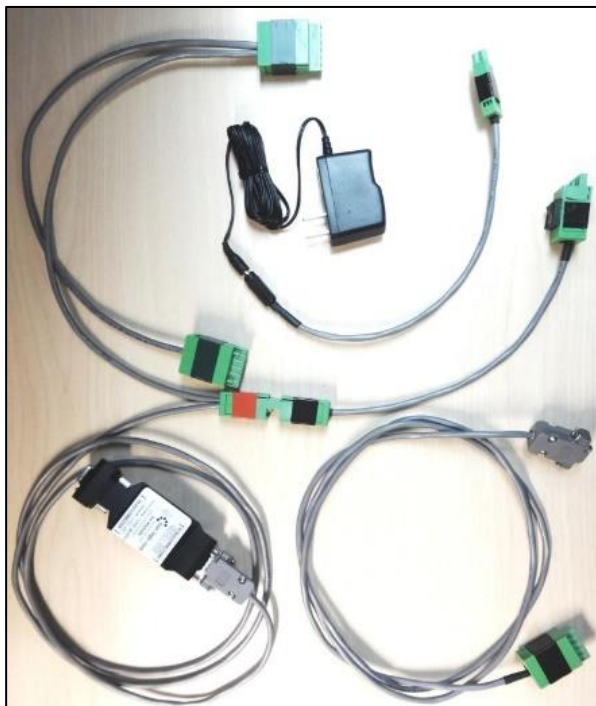

Figure 10-1: Titan Logix Programming Kit
*Refer to Figure 10-1 for connector details.*